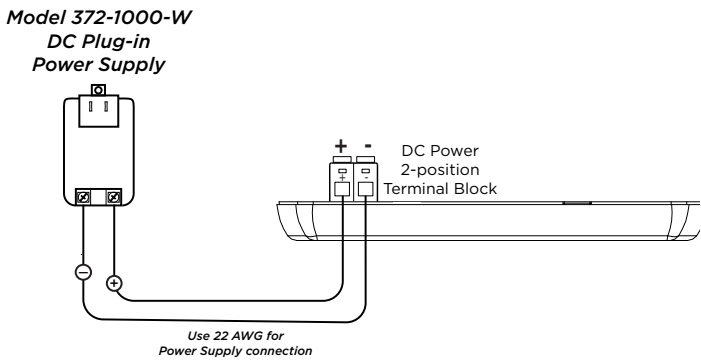

Figure 2: Wireless Expander Side View
- 2. Connect the DC terminal (-) to the negative terminal on the power supply. See Figure 2.